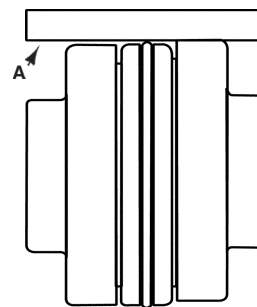

Figure 2-4
To check the PARALLEL alignment: (Refer to Figure 2-4)
2. Measure the maximum offset (A), Figure 2-4, at various points